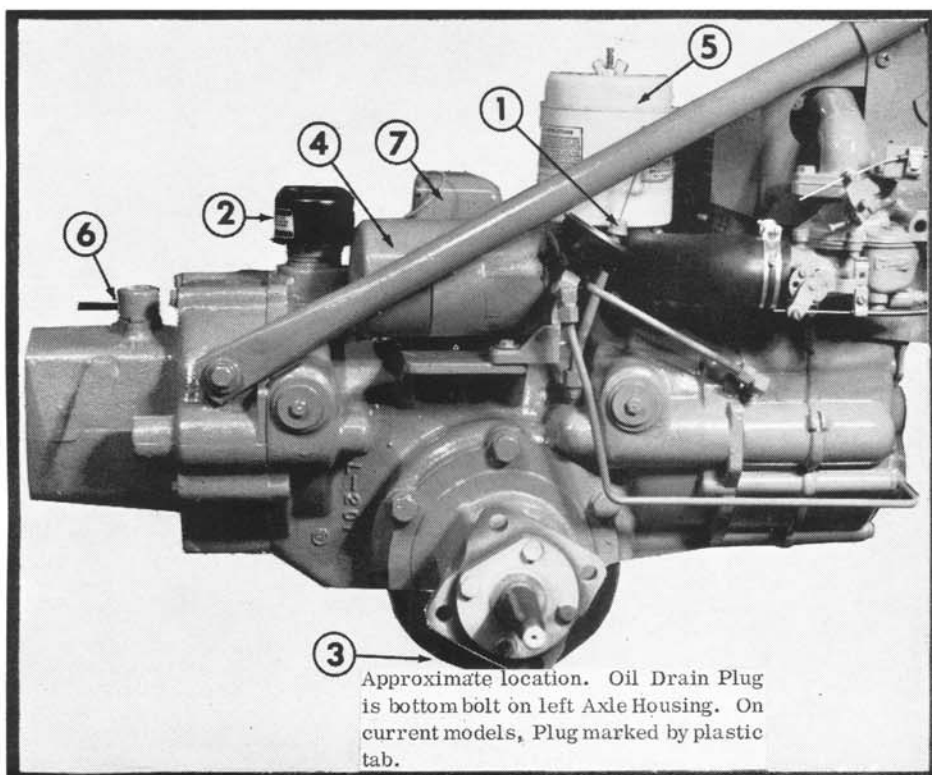

Figure 1
**OIL LEVEL.** Routinely check the oil level with the Dipstick, 1 in Figure 1, before starting. Be sure the Tractor is level.1
**ADDING OIL.** Add oil by removing the Oil Filler Cap, 2 in Figure 1. Stop when oil reaches the FULL mark on the Dipstick. **Note:** Allow enough time for the oil to seek its own level before checking to see if the FULL mark has been reached. This prevents over-filling the Chassis.
**OIL CHANGES.** During the break-in period, the first 40 hours of operation, change oil every 20 hours. Then change oil every 60 hours under normal conditions, or every 40 hours under very dusty or dirty conditions and during extended operation. Drain used oil by removing the Oil Drain Plug, the bottom bolt in the left Tractor Axle Housing2, 3 in Figure 1. In replacing this Nylon-plugged bolt in the bottom bolt hole, be sure the special sealing washer is in place.
The Oil Filter, 4 in Figure 1, is designed to be unscrewed by hand from its Bracket. However, to break the seal, it may be necessary sometimes to use slight force.
The "Double-Guard" Air Cleaner4, 5 in Figure 1, makes it virtually impossible to damage the Engine with dirty air; when the Cleaner becomes clogged with dirt particles, this blocks the flow of air to the Engine, thereby stopping the Engine.
7An Ignition Stop Switch accessory is available for older Tractors. If you have an older Tractor not equipped with the Ignition Stop Switch, stop the Engine by depressing the Magneto Stop Button, mounted on the Magneto, 7 in Figure 1.
**ATTACHMENT CLUTCH LEVER.** The Attachment Clutch Lever, 6 in Figure 1, puts the power attachment in and out of gear. Lever positions are shown by the embossed IN and OUT.